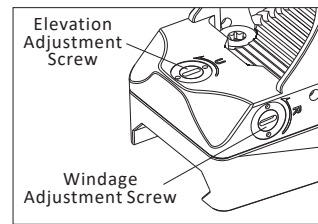

Fig 8
2) The Elevation adjustment is located on top of the tail section of the housing and the Windage adjustment is located on the right side of the housing. Adjustment can be performed by inserting the flat-tipped end of the included tool into the turret slot and rotating, See Fig 8.